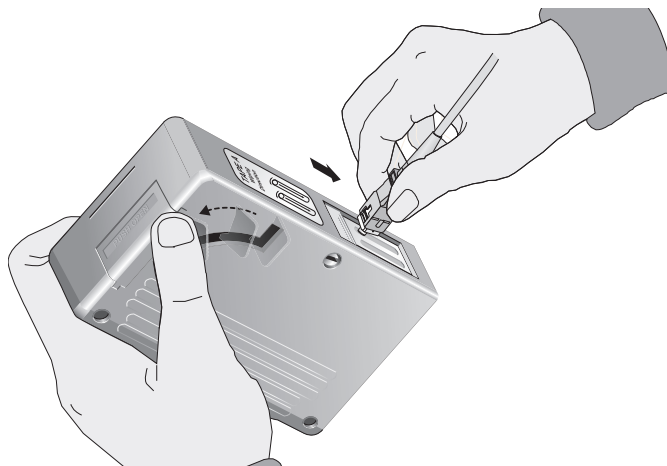

Figure 74. Rubbing the Ferrule Tip on the Cleaning Surface
1. With one hand, hold the cartridge cleaner and push the lever on the cleaning cartridge in the direction of the arrow to expose the cleaning surface, as shown in Figure 74.
2. Place the ferrule tip on the exposed cleaning surface and rub the ferrule in a downward direction, as shown in Figure 74.